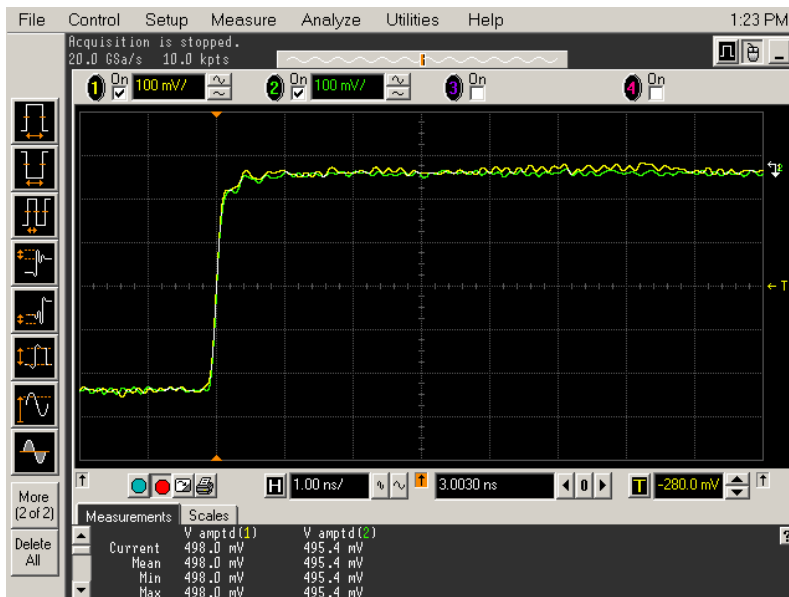

Figure 90 Overlapping Waveforms
- 23 In the Acquisition Setup dialog box enable averaging. When you close the dialog box, you should see waveforms similar to that in Figure 90.